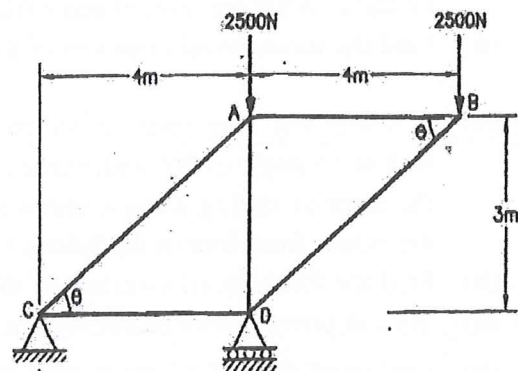

Fig. 2
- (b) Find the forces in all members of the truss shown in Fig. 2. 07